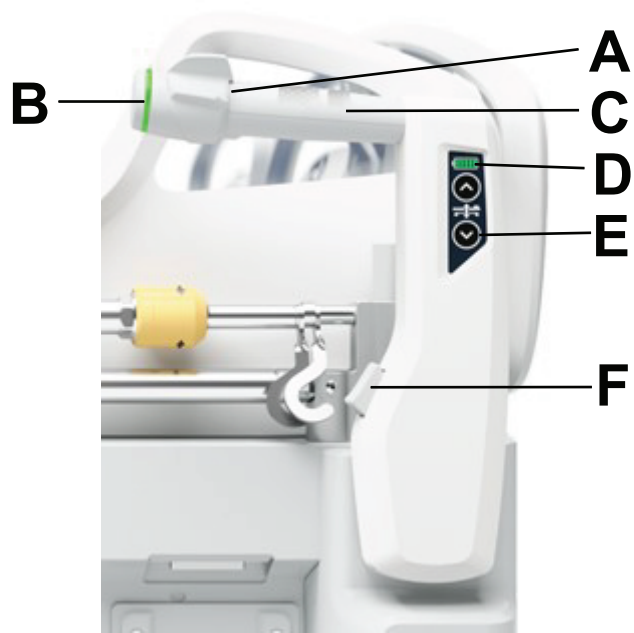

Figure 15 – Zoom throttle
To lower the Zoom handles, press the handle release (F) on the base of the handle and lower the handle (Figure 15).
The Zoom throttle (A) (Figure 15) has three drive modes.